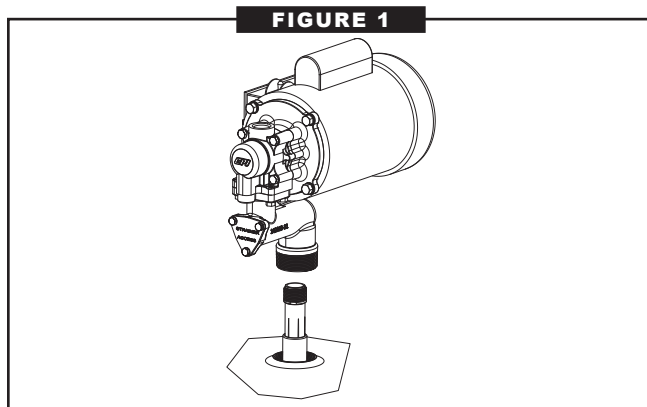

FIGURE 1
4. Insert the suction pipe through the tank bung. Screw pump into tank bung to secure the pump to the tank. (Figure 1)